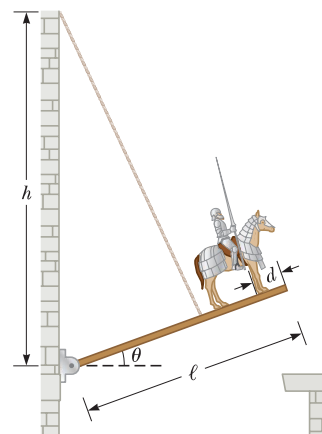

Figure P12.19 Problems 19 and 20.
19. Sir Lost-a-Lot dons his armor and sets out from the castle on his trusty steed (Fig. P12.19). Usually, the drawbridge is lowered to a horizontal position so that the end of the bridge rests on the stone ledge. Unfortunately, Lost-a-Lot's squire didn't lower the drawbridge far enough and stopped it at $\theta = 20.0^\circ$ above the horizontal. The knight and his horse stop when their combined center of mass is $d = 1.00$ m from the end of the bridge. The uniform bridge is $\ell = 8.00$ m long and has mass 2 000 kg. The lift cable is attached to the bridge 5.00 m from the hinge at the castle end and to a point on the castle wall $h = 12.0$ m above the bridge. Lost-a-Lot's mass combined with his armor and steed is 1 000 kg. Determine (a) the tension in the cable and (b) the horizontal and (c) the vertical force components acting on the bridge at the hinge.
20. **Review.** While Lost-a-Lot ponders his next move in the situation described in Problem 19 and illustrated in Figure P12.19, the enemy attacks! An incoming projectile breaks off the stone ledge so that the end of the drawbridge can be lowered past the wall where it usually rests. In addition, a fragment of the projectile bounces up and cuts the drawbridge cable! The hinge between the castle wall and the bridge is frictionless, and the bridge swings down freely until it is vertical and smacks into the vertical castle wall below the castle entrance. (a) How long does Lost-a-Lot stay in contact with the bridge while it swings downward? (b) Find the angular acceleration of the bridge just as it starts to move. (c) Find the angular speed of the bridge when it strikes the wall below the hinge. Find the force exerted by the hinge on the bridge (d) immediately after the cable breaks and (e) immediately before it strikes the castle wall.